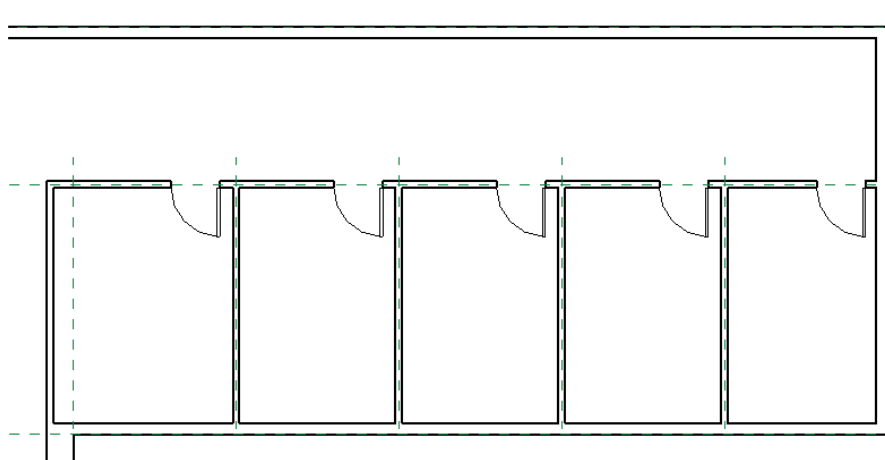

FIGURE 1.15 The doors swing into the rooms.
4. Repeat the same steps to place doors into the other rooms along the interior wall. When you finish, the results should appear similar to Figure 1.15.